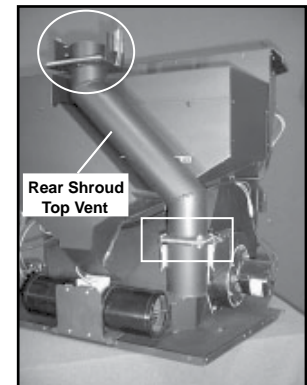

Figure 18.3
3. Use (2) 1/4 - 20 x 3/4 inch bolts with nuts to install rear shroud top vent to the exhaust transition. See boxed area in **Figure 18.3.** (Circled area, top vent adapter, will be installed later).
Install 3 inch or 4 inch (76 or 102mm) top vent adapter. See circled area in **Figure 18.3 on page 18.** **NOTE:** This adapter may be attached to outside venting prior to latching it on to the top vent pipe.